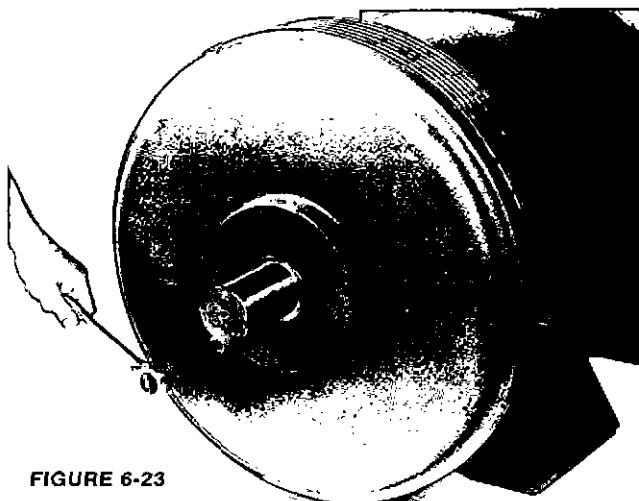

FIGURE 6-23
- b. For two-bearing generators, remove the drive coupling or sheave and key from the shaft extension. Remove the four capscrews holding the bearing lock to the drive end bracket. (Figure 6-23.) Remove the four capscrews holding the bearing caps to the front end bracket. (Figure 6-21.) Remove the outer cap. (Figure 6-22.)